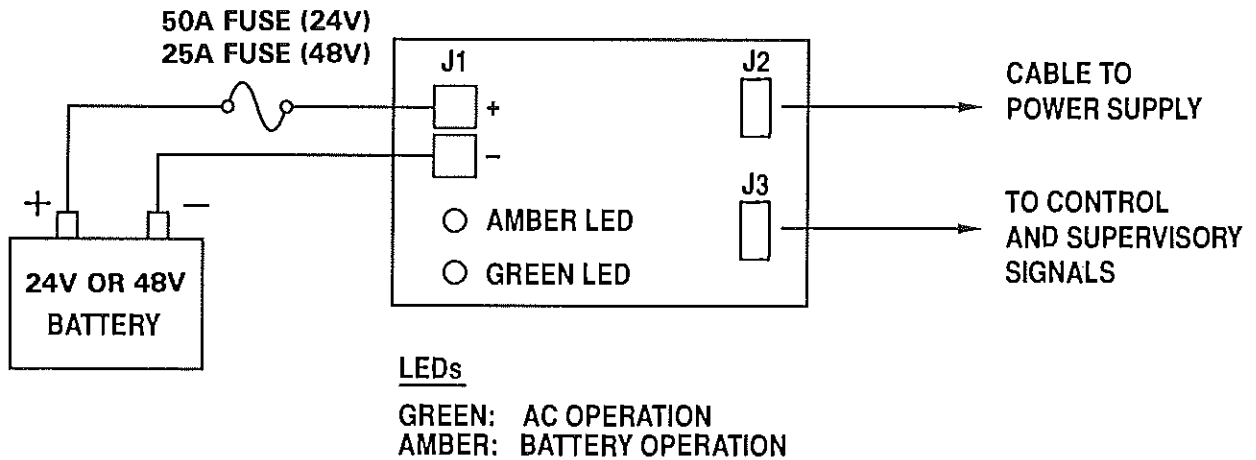

Figure 13. Battery-Backup Unit Connections
- 22.2 See Fig. 13. Connect a 24V or 48V, sealed lead-acid battery, in fully charged condition, to the battery terminals of the unit. The positive terminal **must be connected in series with a 50 ampere fuse for a 24V battery or a 25 ampere fuse for a 48V battery** to meet safety agency requirements. Connect the cable from J2 of the Battery-Backup Unit to J2 of the power supply.